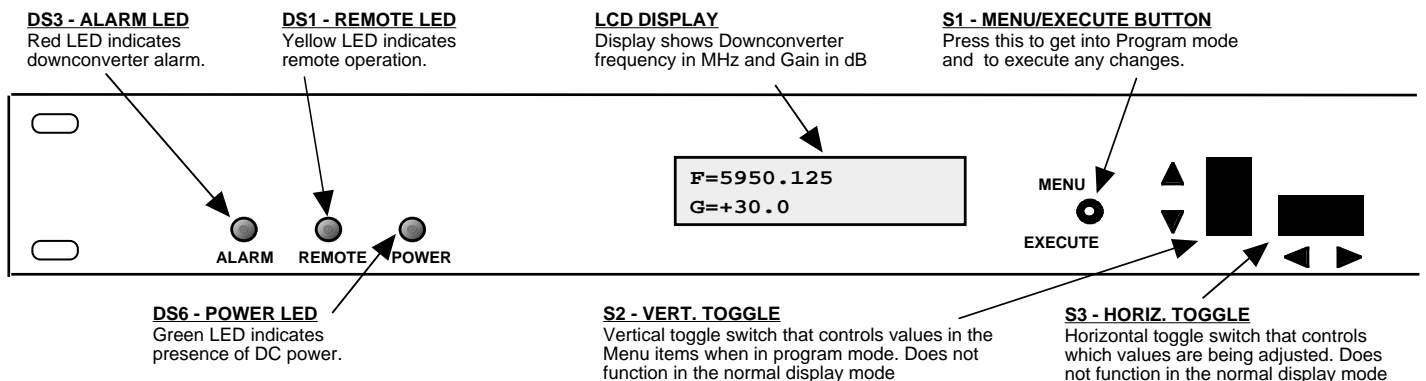

FIGURE 2.3 2016-57 Front Panel Controls and Indicators
Figure 2.3 shows the front panel controls and indicators.
6. Be sure DS6 (green, DC Power) is on and DS3 (red, Alarm) is off (Figure 2.3).
Alarm indications appear on the LEDs (see figure 2.3).